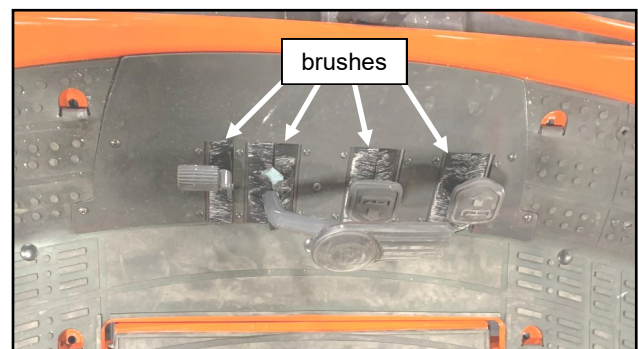

Fig. 4.5 (Install Sealing Brushes)
- 4.5 See fig. 4.5. Install the pedal seal panel on top of the floormat as shown. Secure to the floorpan using the following hardware. The floorpan may need to be lifted slightly in the front on a 60" mower to access the center screw.